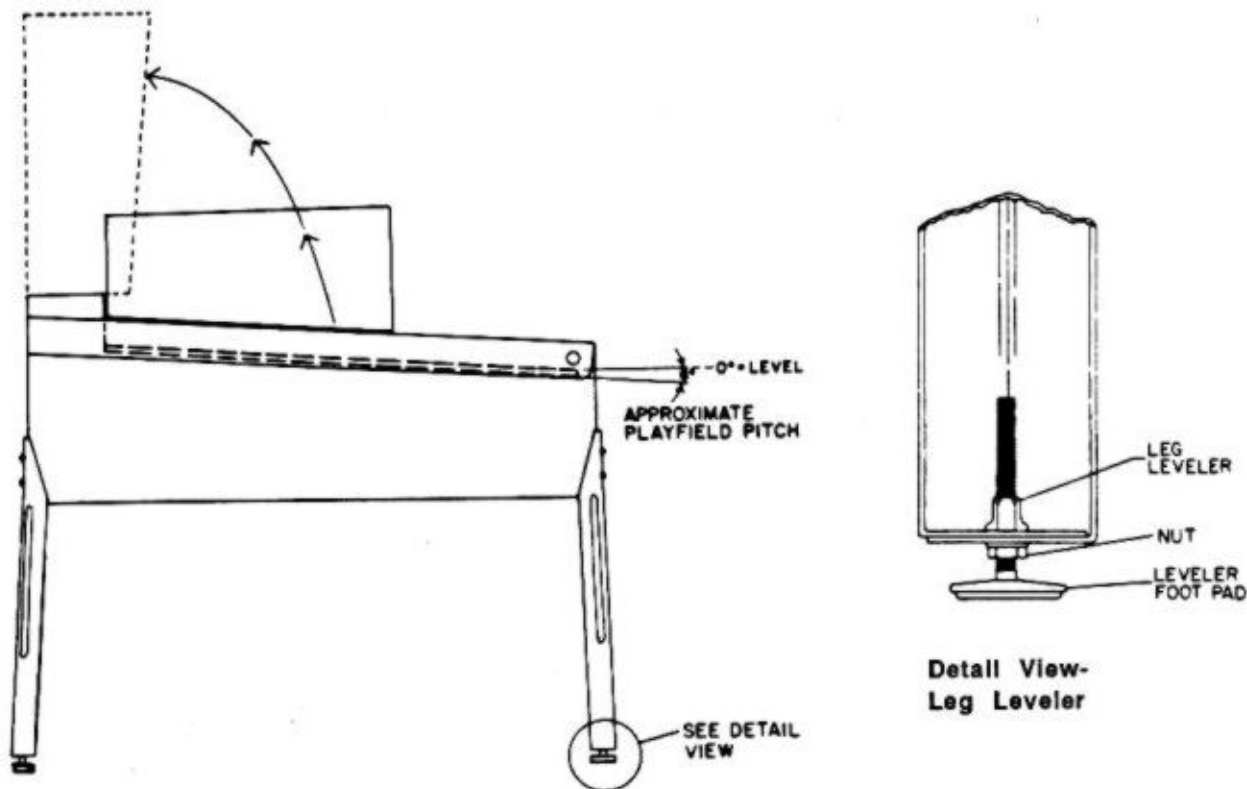

Figure 1. Pinball Assembly, Playfield Pitch Angle, and Leg Leveler Details.
3. Attach the front legs (after installing leg levers), using leg bolts. See Figure 1 for details.
8. Remove the playfield cover glass to permit accurate measurement of the playfield level and pitch. Level (side-to-side) the playfield (preferably measured ON the playfield surface), and firmly tighten the nut on each leg leveler shaft to maintain this level setting, as shown in Figure 1.